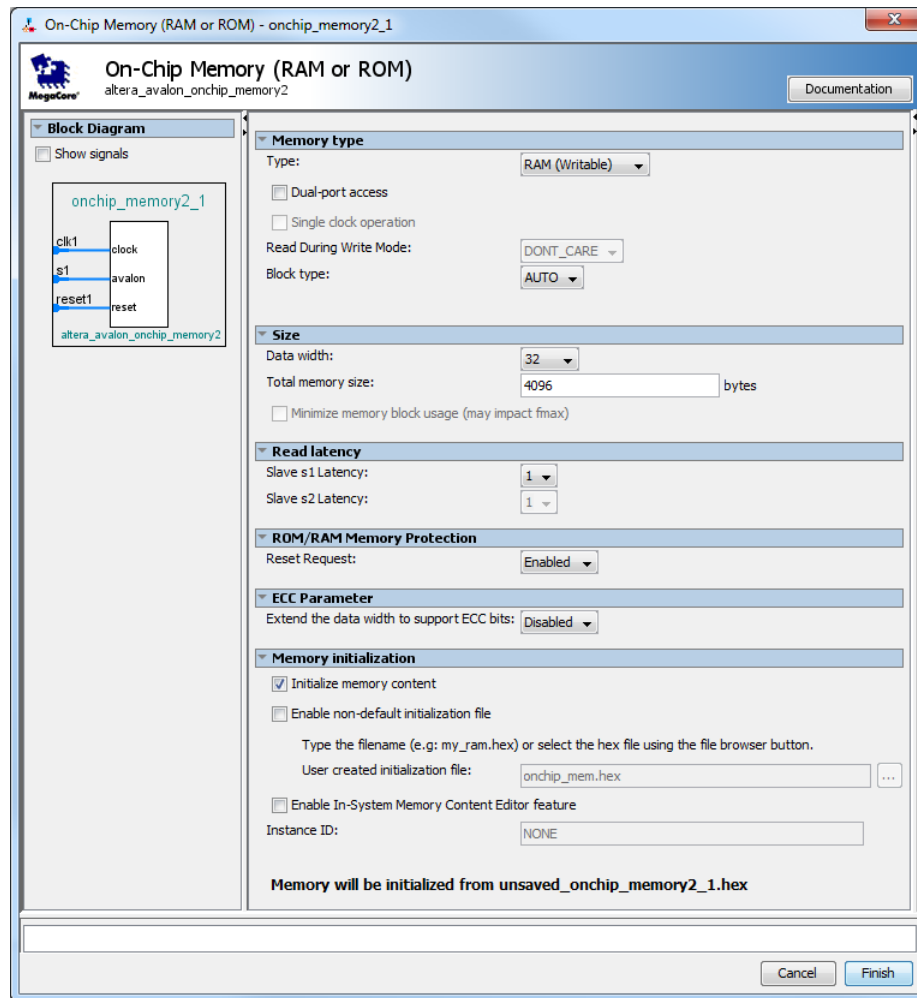

Figure 7. Define the on-chip memory.
- In the On-Chip Memory Configuration Wizard window, shown in Figure 7, ensure that the **Data width** is set to **32 bits** and the **Total memory size** to **4K bytes** (4096 bytes)